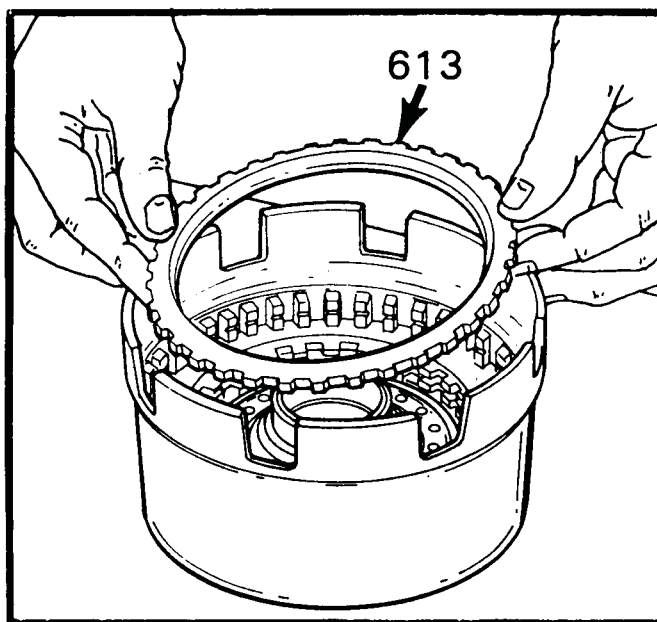

Figure 155
15. Install the reverse input clutch backing plate, chamfered side up, as shown in Figure 155.